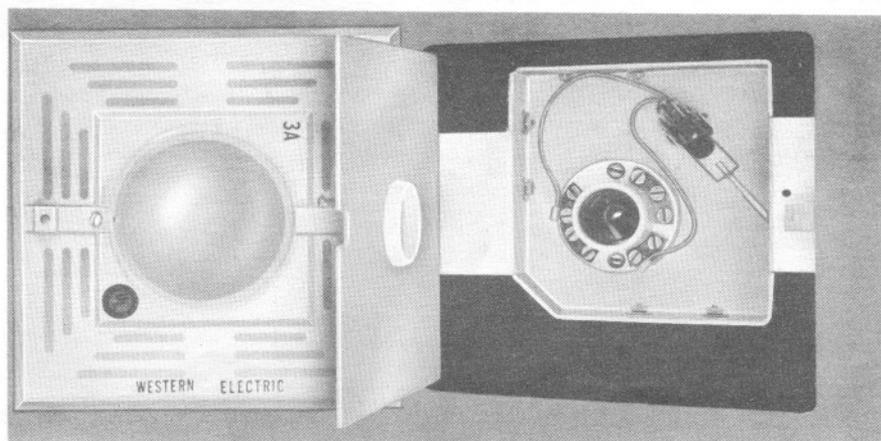

Fig. 8 — 3-type Light Fixture
- 8.05** The 3-type light fixture, used in 5-, 6-, and 9-type booths, consists of a white lens mounted in a flush-type metal plate having ventilating slots, an outlet box containing a lamp receptacle, a light switch enclosed by a hinged cover, and a vertical and a horizontal rod for actuating the light switch from the booth door (see Fig. 8).